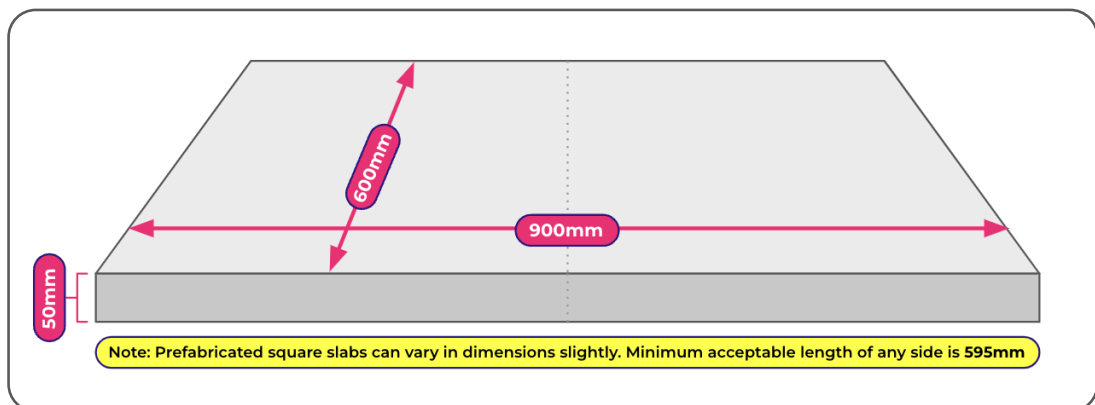

Figure 9.1 - Heat Pump Base
- o Minimum base surface dimensions are 900 mm wide x 600 mm deep (front to back). Minimum thickness is 50 mm to ensure safe and adequate purchase of mounting bolts and to minimize risk of cracking. See *Figure 9.1*.